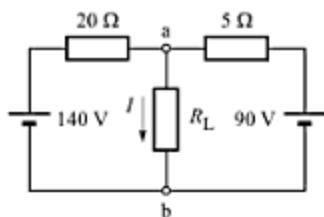

Fig. 4.42
- Find Thevenin's equivalent at terminals a-b of the network shown in Fig. 4.42.